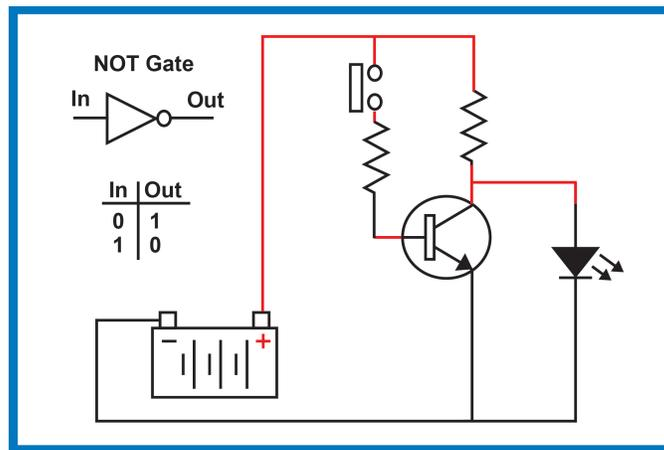

Figure 14
Let's start with looking at a NOT Gate, as illustrated in Figure 14. In this diagram there is a power source in the lower left corner. This power source will supply current to the circuit so it can operate. The current will be supplied to the LED on the right side. The LED will be "on" as the default condition. If the switch is closed (1) the transistor is turned on so the current path now moves through the transistor. This leg of the circuit that goes to the LED is now a ground circuit. This lowers the voltage to the LED so there is not a potential difference between the LED input and output. So, in this condition the LED is turned off (0). When one looks at the truth table it is clear that when the switch is off (0) the output is (1). When the switch is closed (1) the output is (0). The NOT gate is used as an inverter.